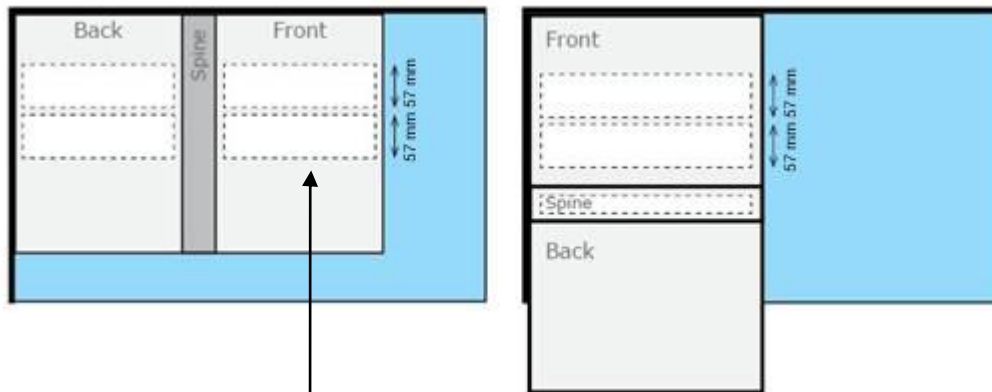

Figure 19: Vertical Spine Orientation (Left) and Horizontal Spine Orientation (Right)
A cover with a spine should always lay flat on the printer's main table as seen in *figure 19*. The printer will print on the side facing upwards. A cover usually encompasses three printable parts, i.e. the front side, the back side and the spine.
- When a cover part is placed outside the printer table, the part is unprintable, e.g. the back side in horizontal spine orientation shown in *figure 19* is partially outside the printer table, so it is not printable in this orientation.